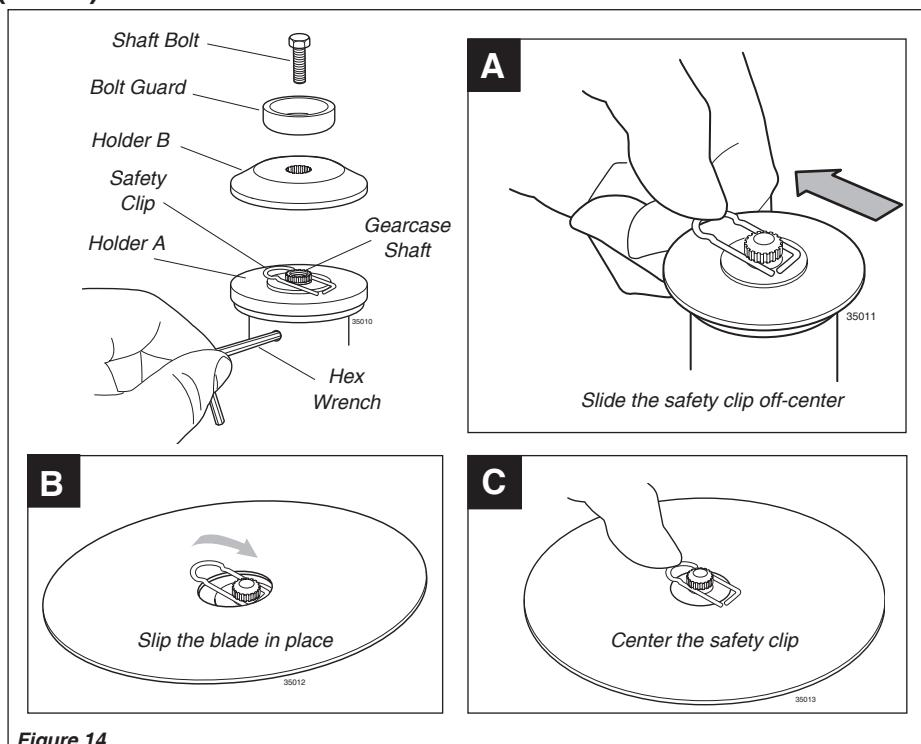

Figure 14
- With the gearcase output shaft facing up, rotate the gearshaft and Holder A until the hole in Holder A aligns with the matching hole in the gearcase flange, and then lock the holder to the gearcase by inserting the long end of the hex wrench through both holes. See Figure 14.
- Remove the shaft bolt, bolt guard and Holder B. See Figure 14.
- Slide the safety clip off center on the gearcase shaft. See Figure 14-A.
- Slide the blade over the safety clip and onto the flange on Holder A. See Figure 14-B
- Lock the blade on the shaft by centering the safety clip. See Figure 14-C.